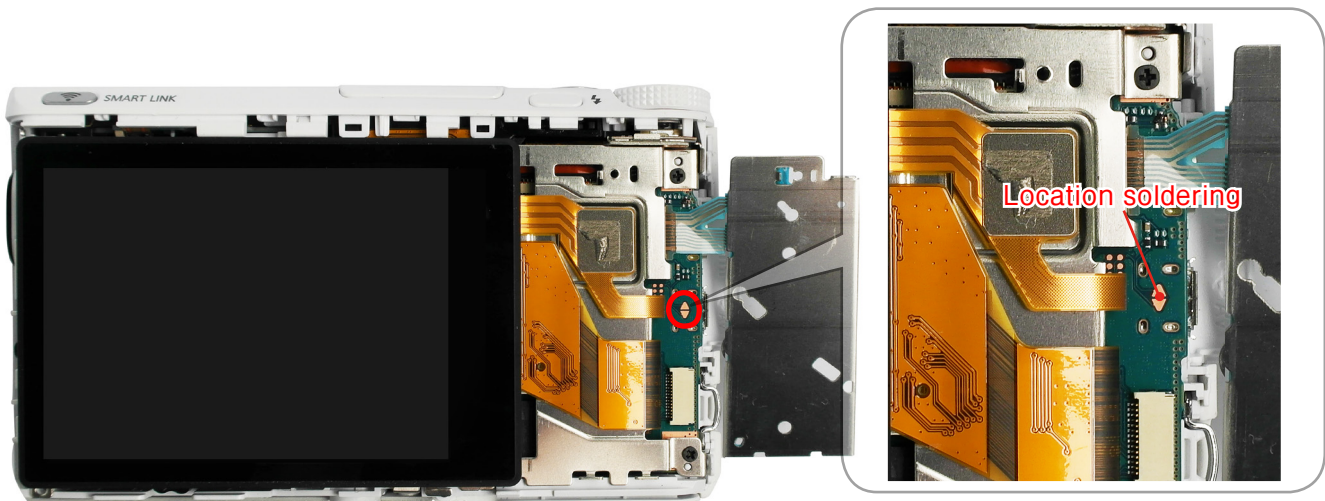

Fig. 7-9
1. Remove the camera as Fig. 7-9.